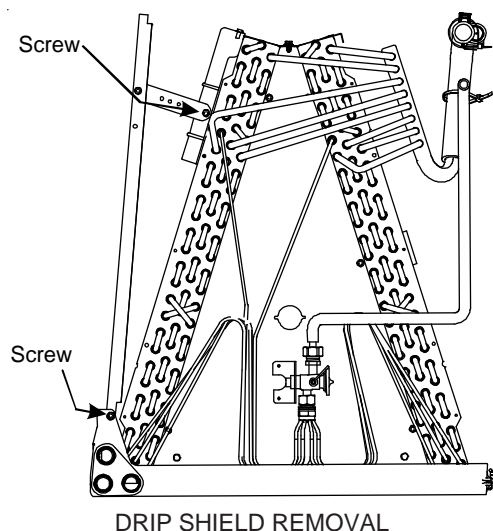

Figure 1
Drip Shield Removal: Refer to Figure 1, remove the two (2) screws that secure the drip shield support brackets to the condensate collectors (one screw per side). Remove the two (2) screws that secure the drip shield to the drain pan. The drip shield and drip shield brackets may now be removed.